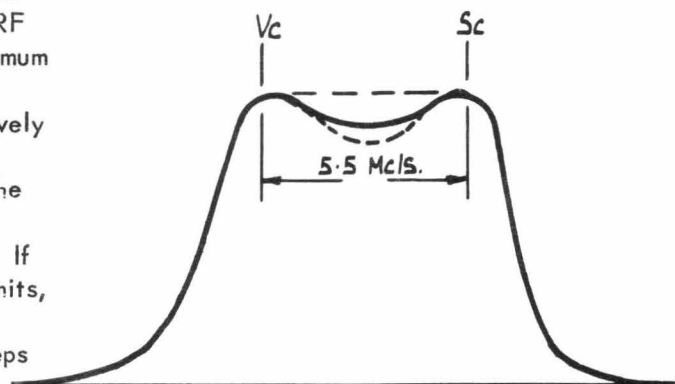

FIG. 10.
6. Adjust the two RF trimmers C1 and C7 and the converter trimmer C12 (all located on the top of the RF tuner) for the curve as shown in Fig. 10 with minimum gain.
7. Adjust the sweep the signal generators progressively for each of the remaining channels 10, 8, 7 etc. Observe the response and check the position of the markers. The curves for all channels should be within the limits shown by the curves in Fig. 10. If a particular channel does not fall within these limits, it is possible that a compromise can be made by adjusting the RF and converter trimmers as in steps 4, 5 and 6 to improve the channel that is out of limits. The response should then be checked on all other channels to determine the extent to which the other channels were affected by the compromise. (If this method proves unsatisfactory, the tuner should be returned for factory attention)